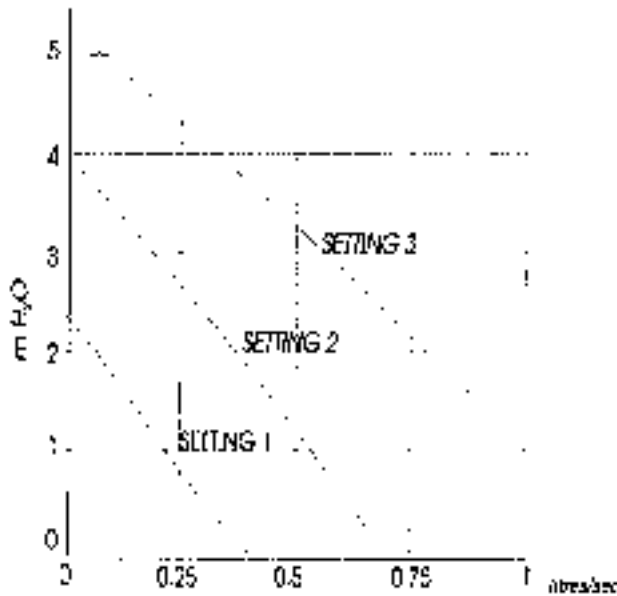

Figure 2.6 Performance Characteristics of Grundfos UPS 15-50 Pump
A schematic layout of the heating system in a typical small dwelling is shown in Figure 2.6.
7. The performance characteristics of the system pumps is given in Figures 2.6 and 2.6a.